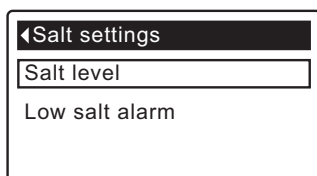

FIG. 30
3. Press the OK/MENU button to display the Salt settings menu (See Figure 30).
7. Press the OK/MENU button. The display will go back to the Salt settings menu (Figure 30).